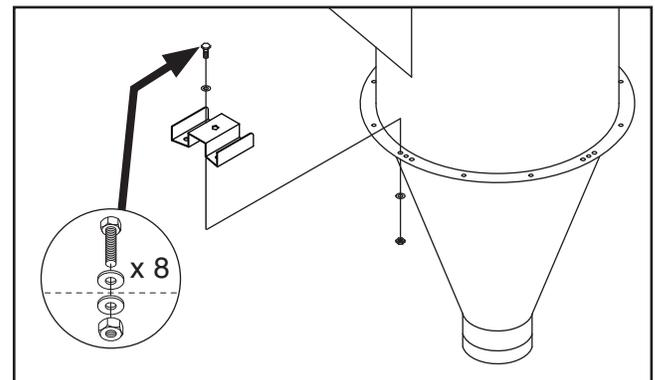

Figure 9. Collector mounting brackets and securing fasteners.
10. Attach (4) Model H7509Z collector mounting brackets to intake assembly, as shown in **Figure 9**, with (8) $\frac{5}{16}$ "-18 x 1" hex bolts, (16) $\frac{5}{16}$ " flat washers, and (8) $\frac{5}{16}$ "-18 hex nuts.